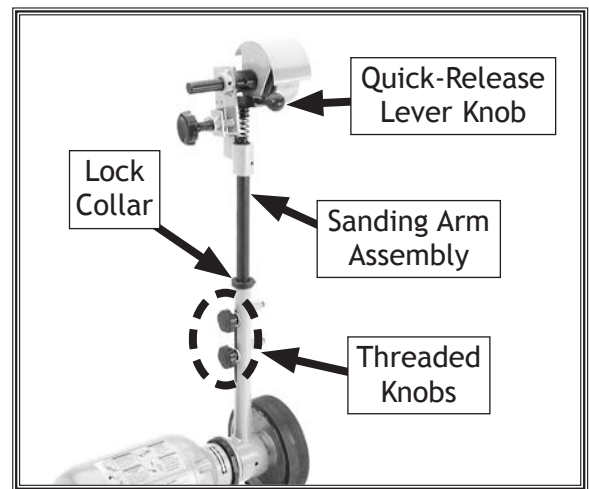

Figure 13. Sanding arm assembly installed.
- Remove the two threaded knobs and flat washers from the sanding arm assembly, insert the shaft into the pivot arm tube until the lock collar rests on top of the tube, as shown in **Figure 13**, then re-install the knobs and flat washers to hold it in place.
- Install the quick-release lever knob, as shown in **Figure 13**.